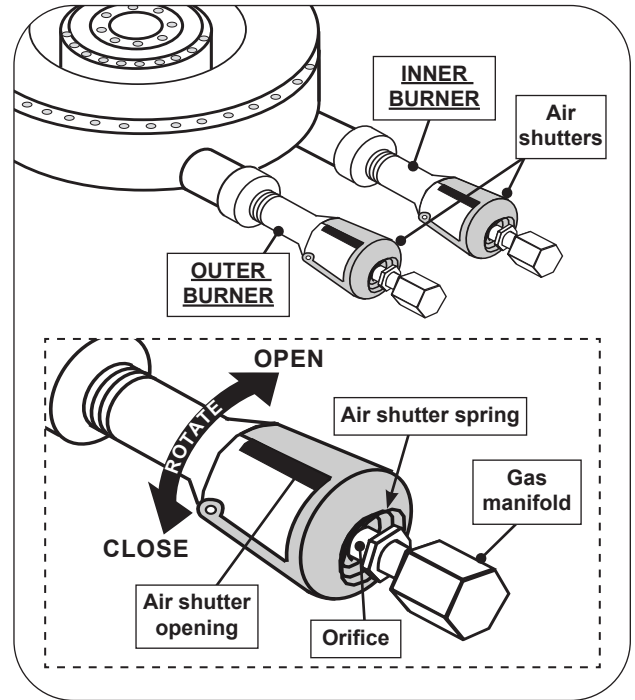

Fig. 40-1 Power burner air shutter adjustment detail
1. To adjust the air shutters, rotate the shutters to open or close them. See Fig. 40-1 for details.